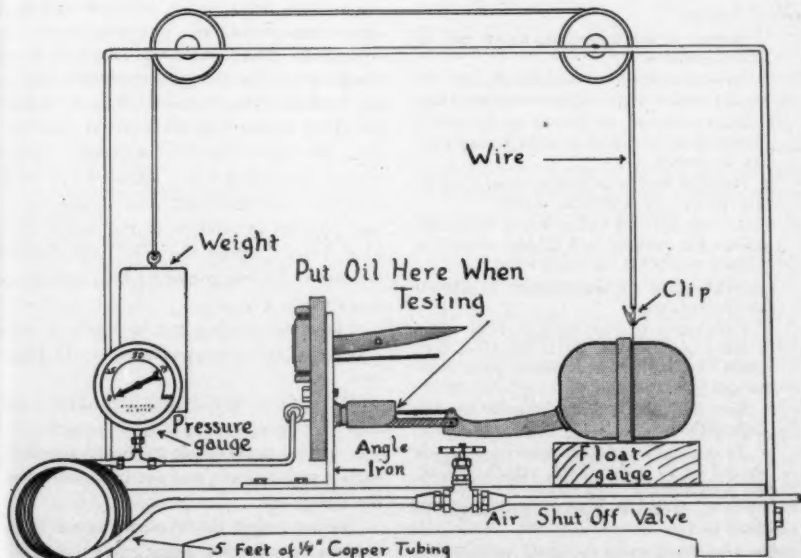
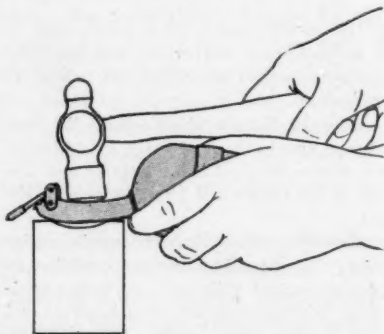

FIG. 1. DETAILS FOR MAKING FLOAT VALVE TEST OUTFIT
FIG. 2. BENDING FLOAT VALVE ARM
**The Fifth Step**—Mount the assembled float valve on test stand, an illustration of which appears as Fig. 1.
The test outfit in Fig. 1 can be readily made. You will find many spare parts around the shop that will come in handy in making this test outfit. Practically all the material necessary can be thus found. The diagram will be helpful in constructing your test outfit. Instructions for making same are as follows:
When the float ball is up closing the valve, there should be just enough space between the valve and the stand below to allow the float ball gauge to slide beneath the ball as shown in illustration, Fig. 1.
If the clearance space is not enough one way or the other, use a hammer and with light strokes bend the arm whichever way is desired. Be sure that the float ball is not touching the iron block upon which the bending is done. The reason for this is to keep the direct strain from the soldered joint that holds the ball to the arm. See Fig. 2 for the correct position the arm should be in while bending. The float ball must occupy a certain position in relation to the closed valve when placed within the coil. This certain position to be determined by float ball gauge as shown in Fig. 1.
Fig. 2 shows the method of connecting Single Phase, Repulsion Induction Motor to 220 volt Circuit.